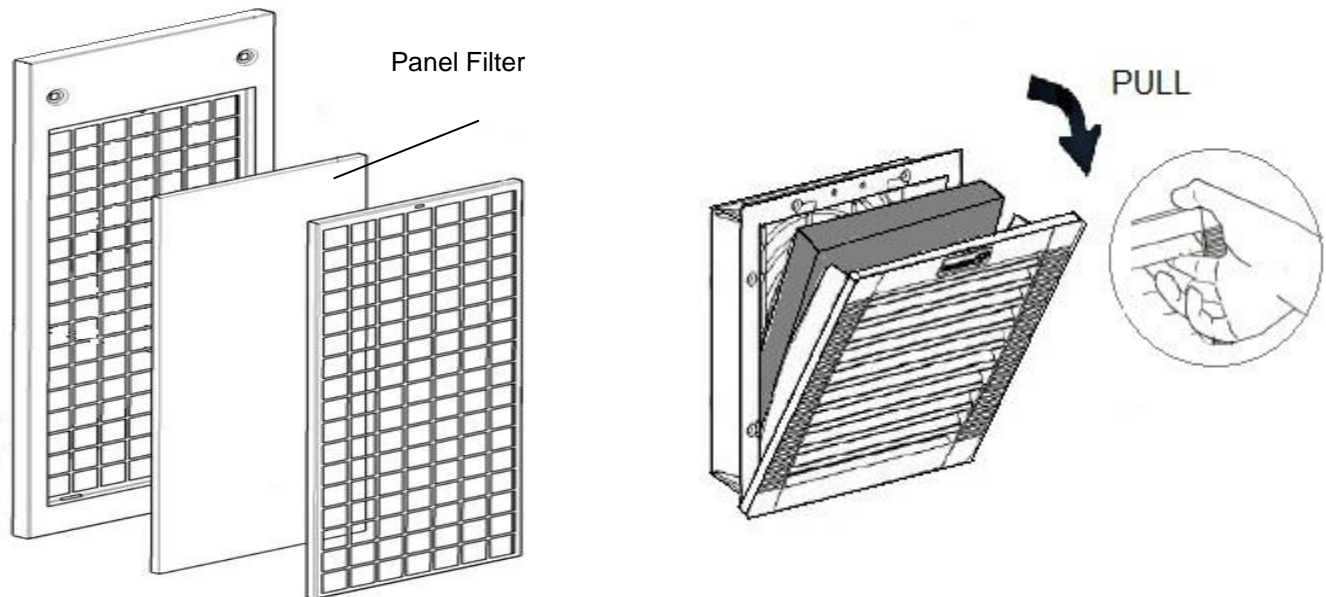

Figure 22 Panel Filter and Control Box Filter Replacement
- Replace the panel filter element (See, Figure 22). If it does not reach 4000 hours within 12 months, replace it once 12 months at any rate.
- Open the louver grilles of the inlet filter (Fig. 22).